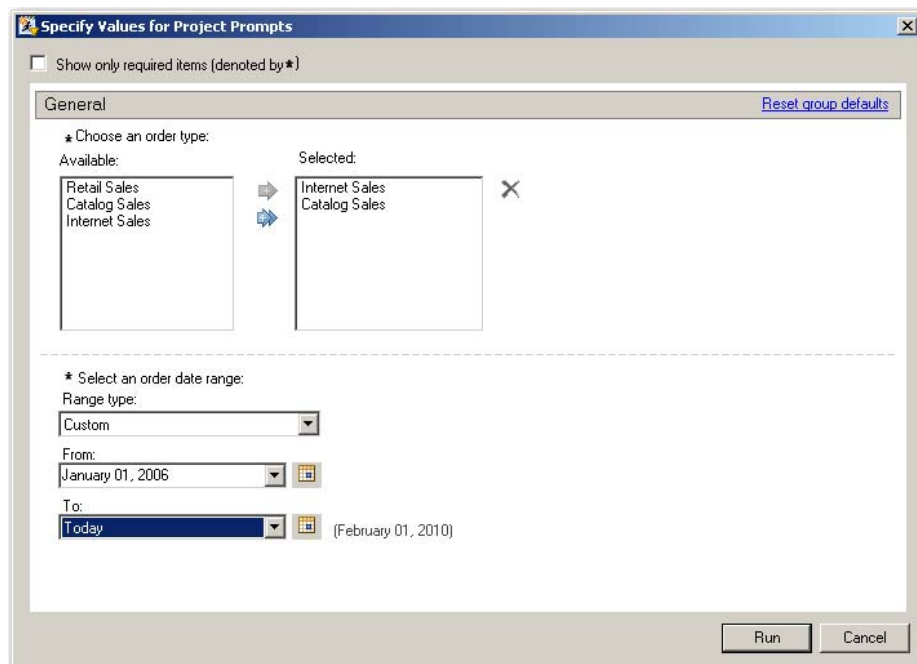

Figure 12. Multiple Value and Range Prompt Window
7. Let's just look at non-retail sales. In the prompt window, highlight both **Internet Sales** and **Catalog Sales** in the list of available values and select the arrow to move them into the selected area. Leave the date range information the same. Click **Run** to generate the report. See Figure 12 below.